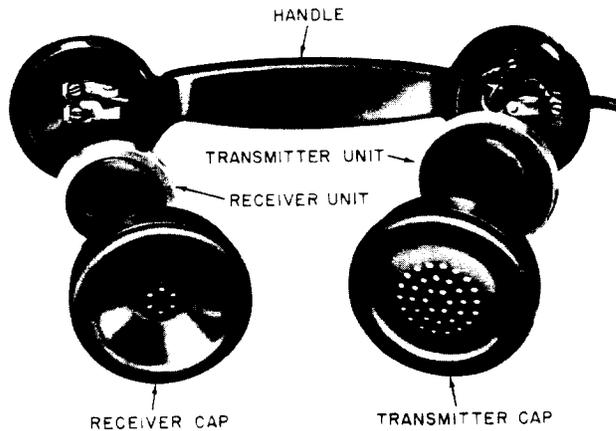

Fig. 1—F Series Handset
2.01 The F-series handset (Fig. 1) is a black, phenolic-plastic handset. Table A lists the F-series handsets, component parts, and principal uses.